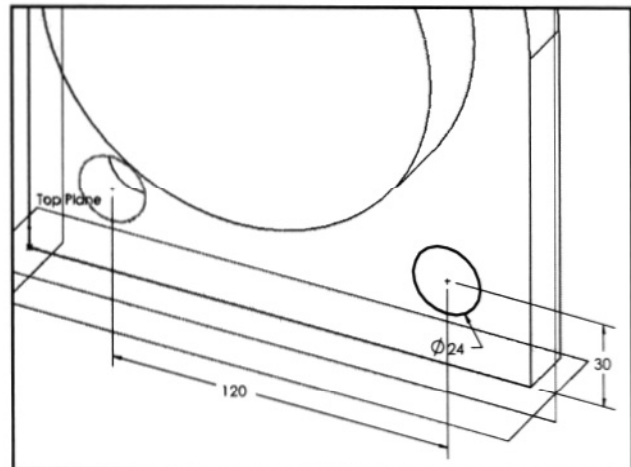

Figure 3-15. The second hole is probably most logically located with respect to the first hole.
- Tools ♦ Dimensions ♦ Smart ♦** <select the first hole, then the new hole, then click to place the dimension; change the dimension value to 120 (see Figure 3-15)> ♦ <select the front-bottom edge of first extrusion, then the second hole, then click to place the dimension; change the dimension value to 30> ♦ <check OK button>